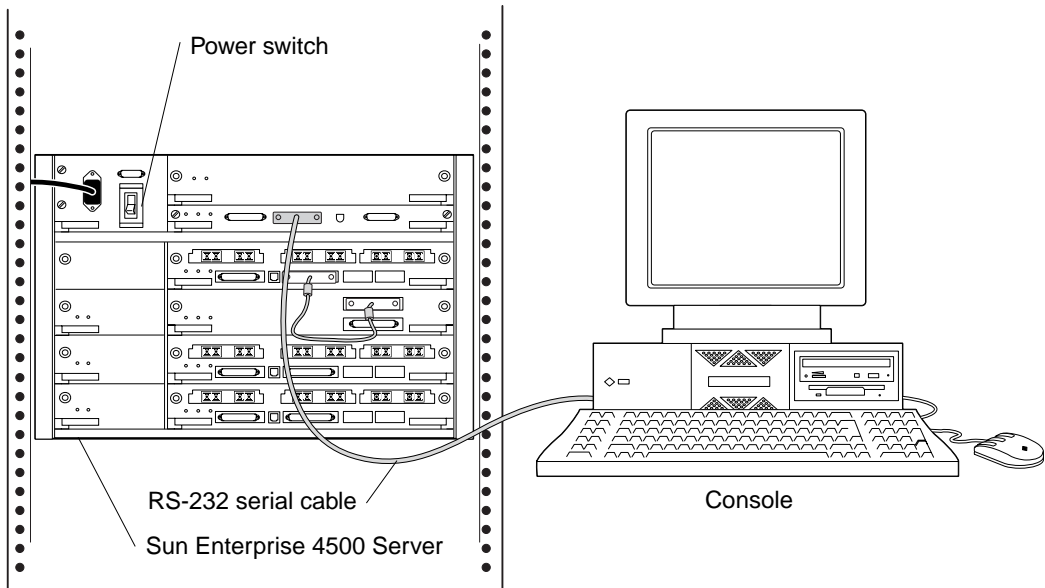

FIGURE 3 Console Connection to Reboot the System
1. Turn off the power switch on the back of the Sun Enterprise 4500 Server before the facility power comes back on. See FIGURE 3.
4. Connect a console to the Sun Enterprise 4500 Server as shown in FIGURE 3.
This section describes how to set up and configure the filer to communicate with the network hosts. Before starting this procedure you must be connected to the filer with a console as shown in FIGURE 3.